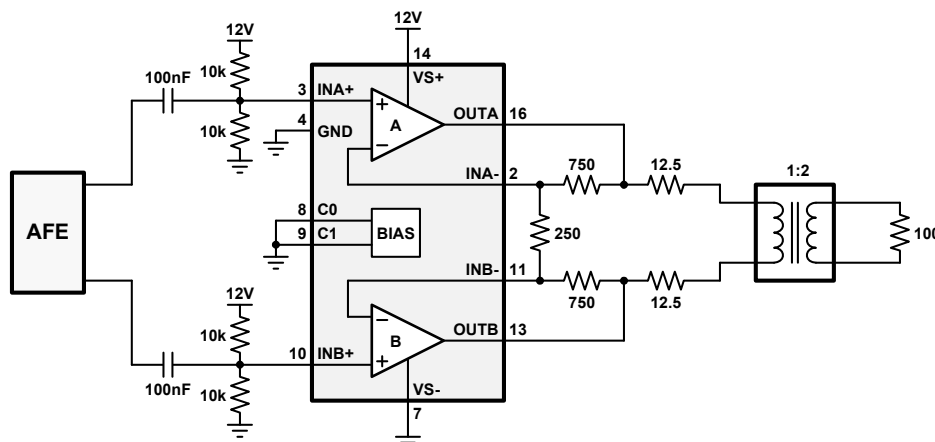

FIGURE 25. SINGLE SUPPLY OPERATION WITH INPUT COMMON-MODE BIASING
- DC bias the inputs at an appropriate common mode voltage and AC couple the signal (Figure 25), or: